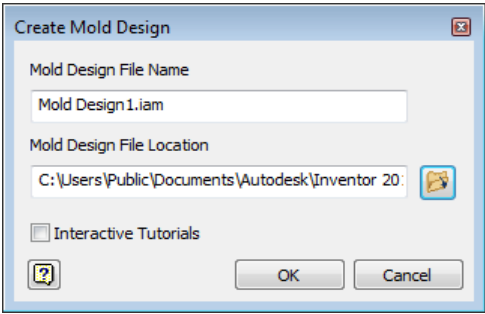

Figure 19-62 The *Create Mold Design* dialog box
- Double-click on the **Mold Design (mm).iam** option; the **Create Mold Design** dialog box will be displayed, as shown in Figure 19-62.